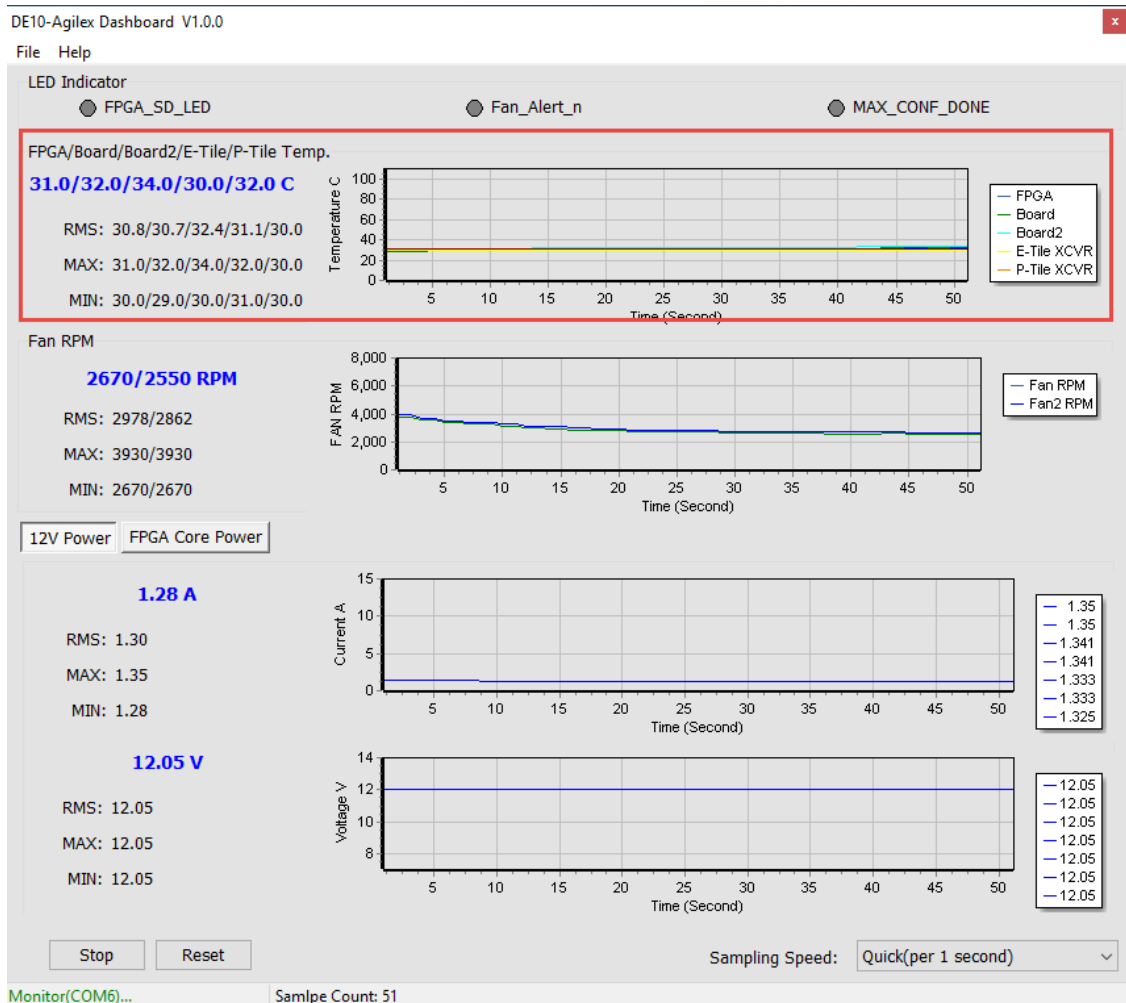
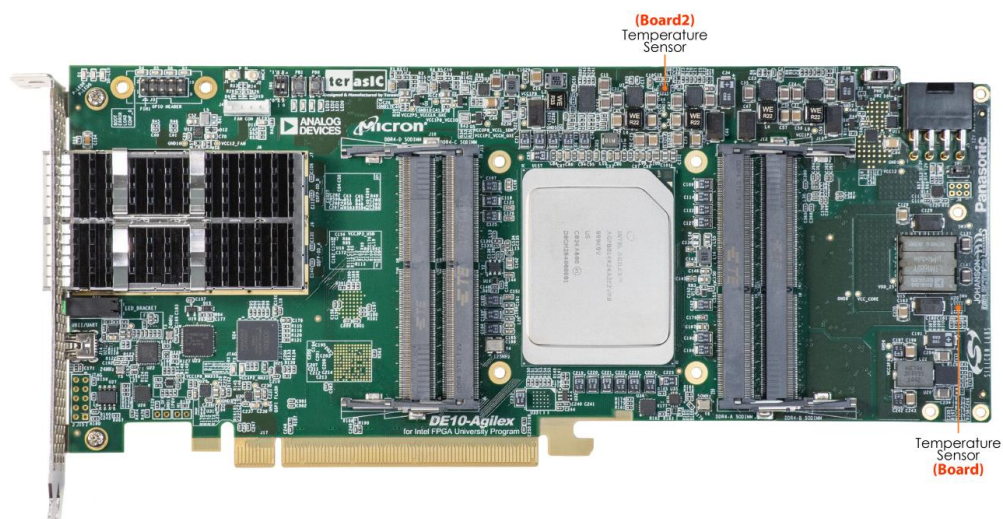

Figure 10-9 Temperature section
Figure 10-10 Location of the board's ambient temperature
- **FPGA/Board/Transceiver Temperature:** The Dashboard GUI will real-time show the DE10-Agilex board's ambient temperature (**Board** and **Board2** data in the GUI) and FPGA and FPGA's transceiver (**E-Tile** and **P-Tile**) temperature. Users can know the board's temperature status in time. The information will be refreshed per 1 second, and displays through diagram and number, as shown in **Figure 10-9**. **Figure 10-10** shows the location of the two temperature sensors of **Board** and **Board2** on the GUI.